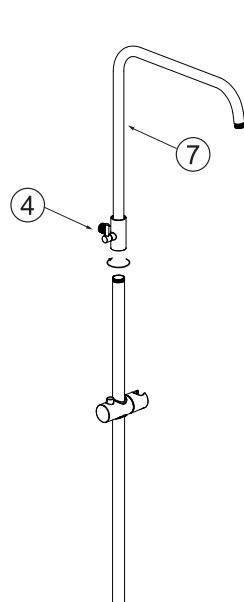

Figure 4
- b) Connect the overhead arm pipe to the riser rail (Figure 4).